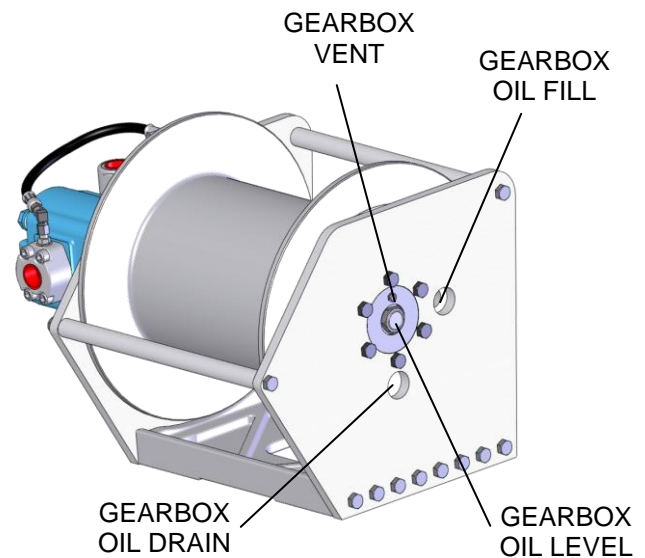

Fig. 2.2
- Gearbox oil level inspection is achieved by removing the oil level inspection plug and visually inspecting the oil level. Maximum oil level is to the bottom of the threads of the inspection hole. This procedure is explained, in detail, in your Tulsa Winch Service Manual. Use only the oil recommended in the Tulsa Winch Service Manual for your hoist type. See Fig. 2.2, Oil Level Inspection.